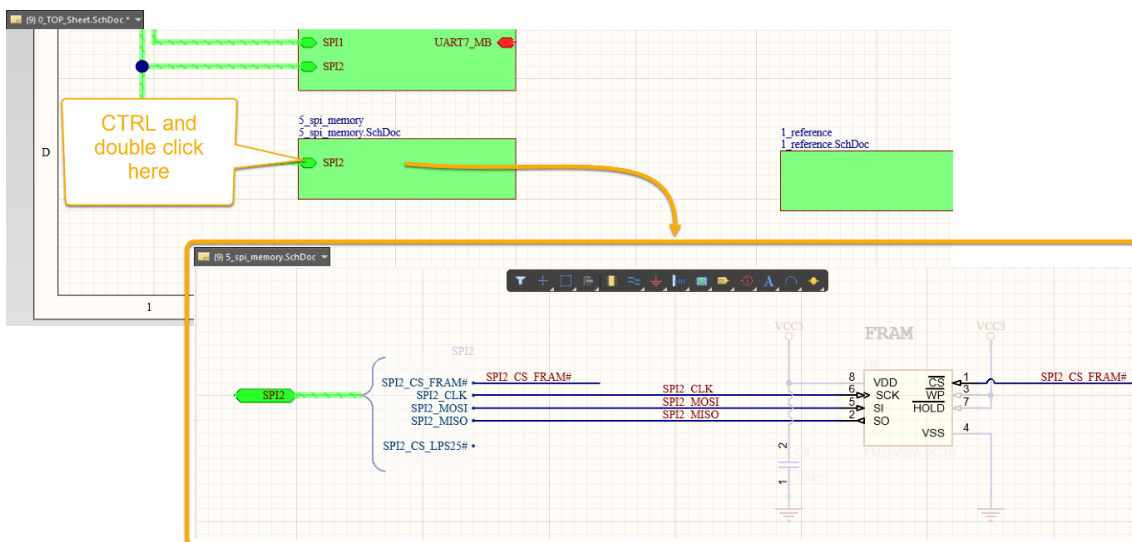

Figure 3. Navigating net connectivity between schematics
12. To jump to the signals in the SPI2 harness, press and hold the **CTRL** key and double-click on the sheet entry, as shown in Figure 3.